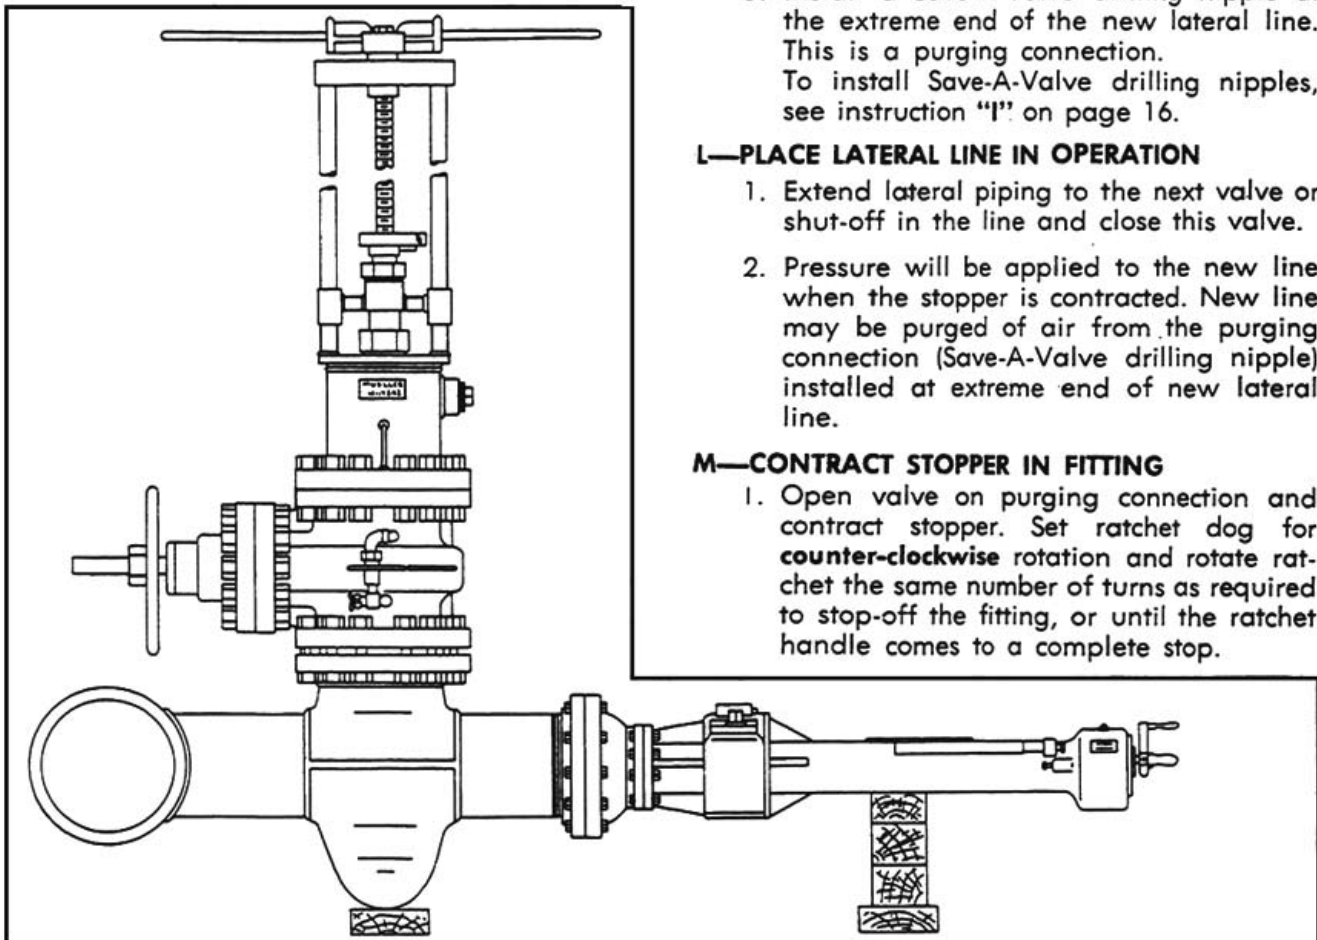

FIGURE 33
3. Set ratchet dog for **clockwise** rotation and rotate ratchet to expand stopper. **Figure 33**. (Approximately 6 or 7 revolutions will effect a shut-off, depending upon the line pressure being shut-off and condition of stopper seating surface in fitting.)